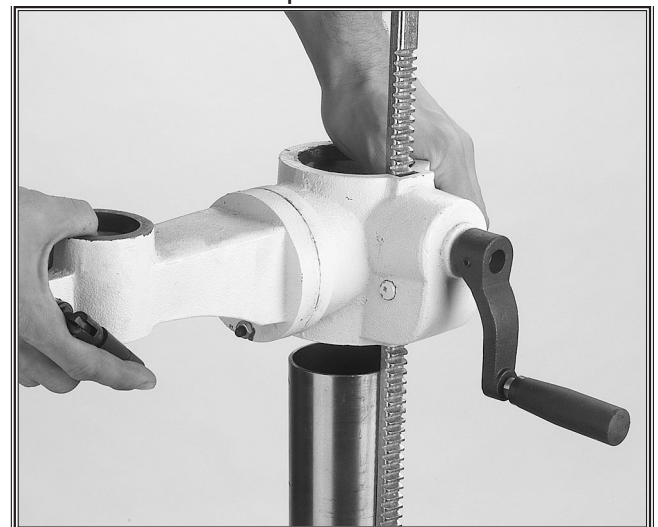

Figure 11. Installing rack and table bracket.
6. Insert the rack through the table bracket so the end that has the rack teeth cut closer to the end is pointing down (see **Figure 11**).
7. Hold the rack against the worm gear and slide the table bracket and rack onto the column (see **Figure 11**).